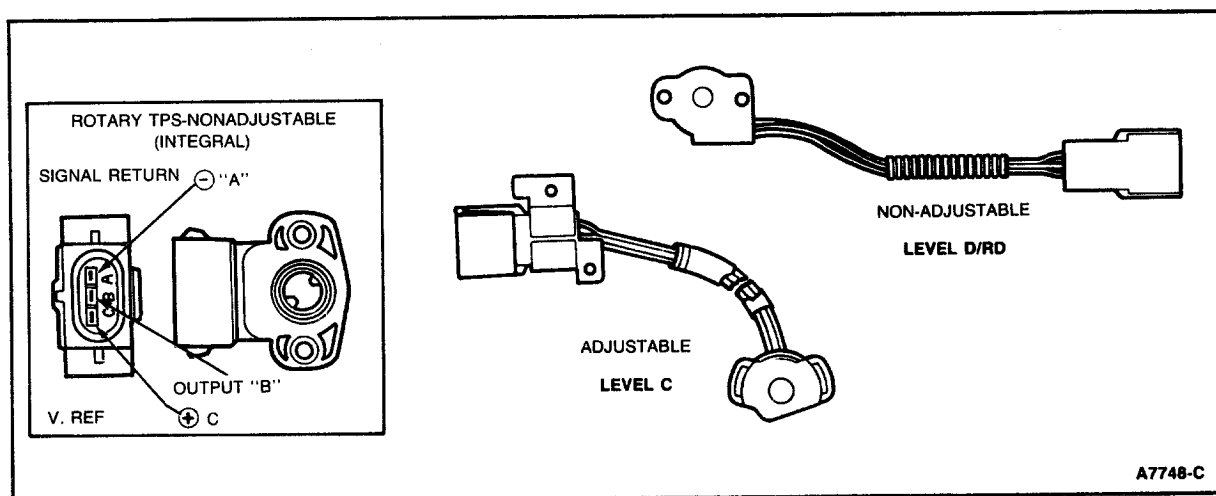

Figure 1 Throttle Position (TP) Sensor (Rotary)
The Throttle Position (TP) Sensor (Rotary), Figure 1, supplies the ECA with a signal proportional to opening angle of carburetor throttle plates.